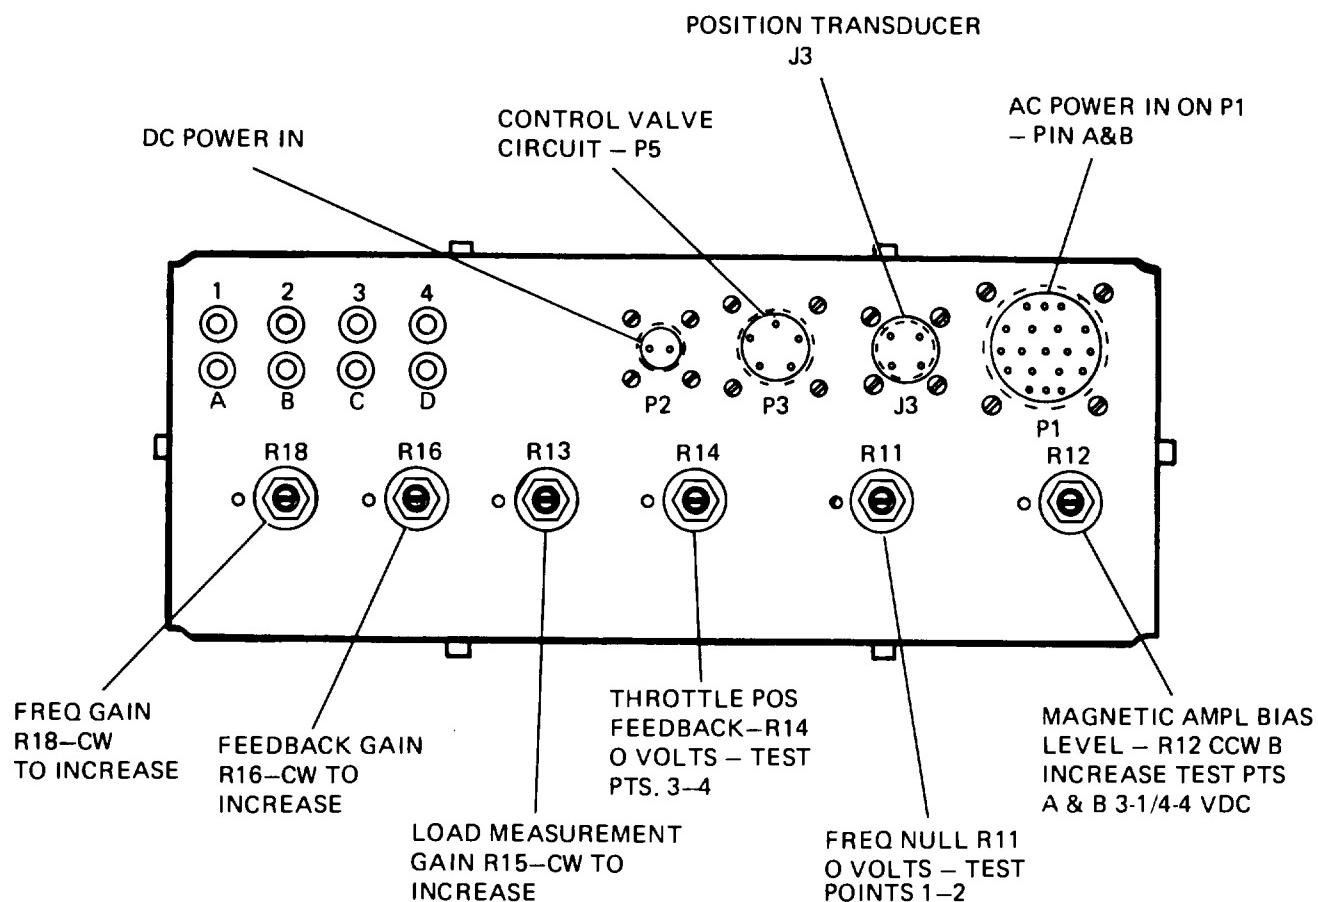

Figure 3-83. Electro-Hydraulic Governor Control Unit Control Panel
- j. Alignment Procedure. See figure 3-83 for identification of controls and perform the following procedures.
- (1) Set R11, R14, R16 and R18 rheostats at mid-point.
- (2) Set R15 full counterclockwise.
- (3) Set R12 approximately 3/4 turn counterclockwise.
- (4) Refer to Unit Maintenance Manual and start engine. If engine oscillates rapidly, adjust R16 and R18 until operation is stable.
- (5) Once set has been stabilized, adjust R1 rheostat on control panel to obtain 60 Hz or 400 Hz.
- (6) Connect a dc voltmeter with 0-10 volt range across test points 3 and 4. Test point 4 is positive. Adjust R14 until voltage across test points 3 and 4 is zero at no load.
- (7) Connect dc voltmeter across test points 1 and 2. Test point 1 is positive. Adjust R11 for zero volts at 60 Hz or 400 Hz at no load. Repeat adjustment until voltage across test points 1 and 2 and 3 and 4 is zero and frequency is 60 Hz or 400 Hz.